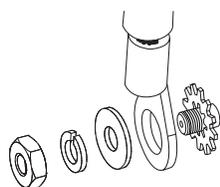

Fig. 15, Hardware Wire Stack Up
6. Connect the power supply external ground connection to the rack ground stud Δ in Fig. 13. Follow the proper stack up (Fig. 15) to attach the supplied #10-32 nut, lock washer, flat washer, and supplied ground wire.